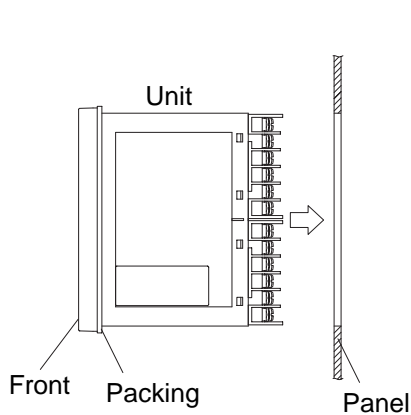

Fig. 1
- ① As shown in Figure 1, fit a packing to the case of the unit and then insert it in the panel.